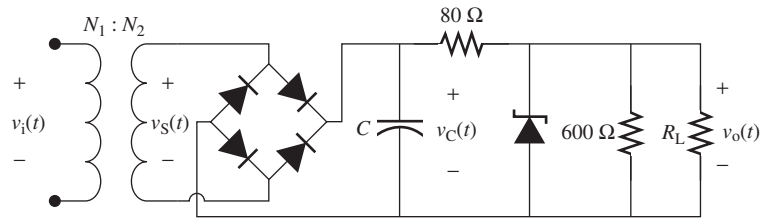

FIGURE P8.32 Circuit for Problem 8.32.
- 8.32** (H) A transformer has 200 turns of coil at its input stage and 50 turns of coil at its output stage. A voltage regulator is connected to the transformer (see Figure P8.32) to drive the load, $R_L = 300$ Ω . Given that the transformer is connected to a source, $V_S = 120$ V, $\omega = 100$ rad/s, and the Zener voltage is 5 V, determine the capacitance required in the voltage regulator to meet the design requirements.